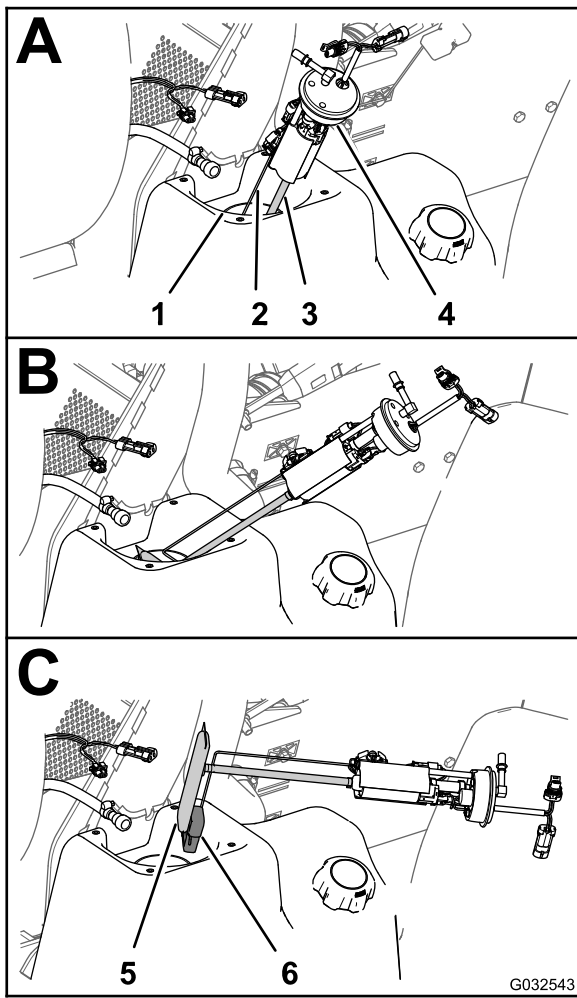
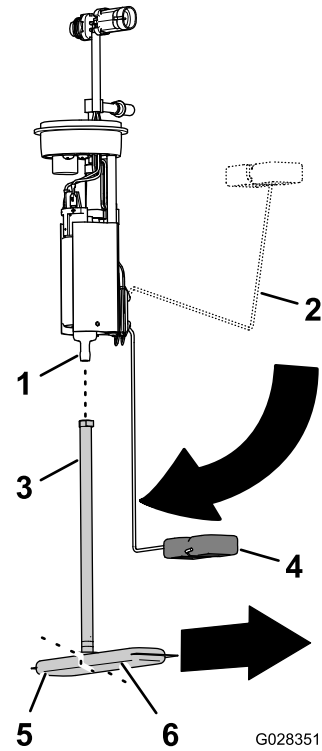

Figure 119
Figure 120
4. Carefully lift and rotate the fuel pump/sending unit out of the neck of the fuel tank (Figure 119).
1. Remove the pickup tube of the fuel filter from the fitting of the fuel pump (Figure 120).
2. Align the pickup tube of the new fuel filter with the fitting of the fuel pump (Figure 120).
3. Align the long leg of the fuel filter with float when the float arm is in the empty position (Figure 120).
4. Insert the fuel-pump fitting into the pickup tube until the fitting is fully seated (Figure 120).
1. Support the float arm and pickup tube together and slip the float and fuel filter into the opening in the fuel tank (Figure 119).
2. Seat the fuel pump/sending unit into the opening in the tank (Figure 119 and Figure 120).
3. Install the seal and nut over the fuel pump/sending and onto the neck of the fuel tank and tighten the nut hand tight (Figure 119).
4. Connect the coupling on the fuel hose to the fitting of the fuel pump (Figure 119).
5. Connect the 2-socket connector of the machine-wiring harness to the 2-pin connector of the fuel pump/sending unit; Connect the 2-pin connector of the machine-wiring harness to the 2-socket connector of the fuel pump/sending unit (Figure 119).